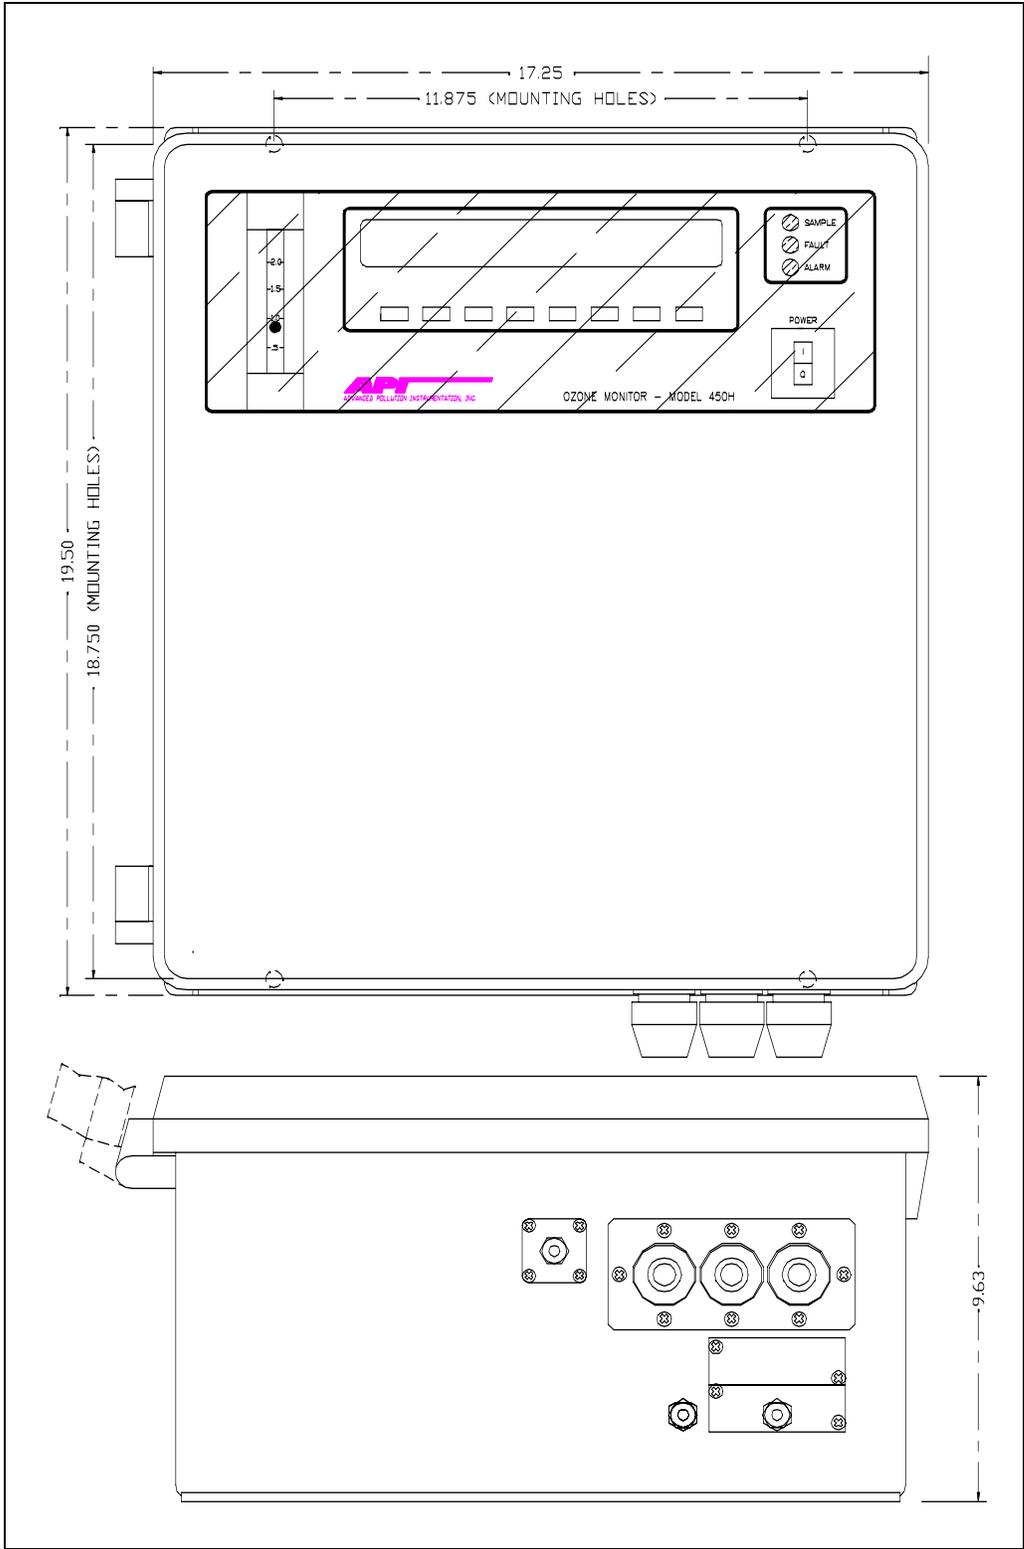

FIGURE 1.1 – NEMA 4X MOUNTING HOLE DIMENSIONS
3. Mount the 450H to a vertical surface using four 5/16" bolts. See Figure 1.1 for mounting hole dimensions.
Three form C relay outputs are provided on three pin connectors (See Figure 1.1). These outputs correspond to the 'HI' and 'HI-HI' concentration alarms and a System OK status output that is used to indicate a fault or error condition in the instrument. The relay contacts are rated to 3A at 240VAC. Do not exceed these ratings when connecting equipment to the instrument.